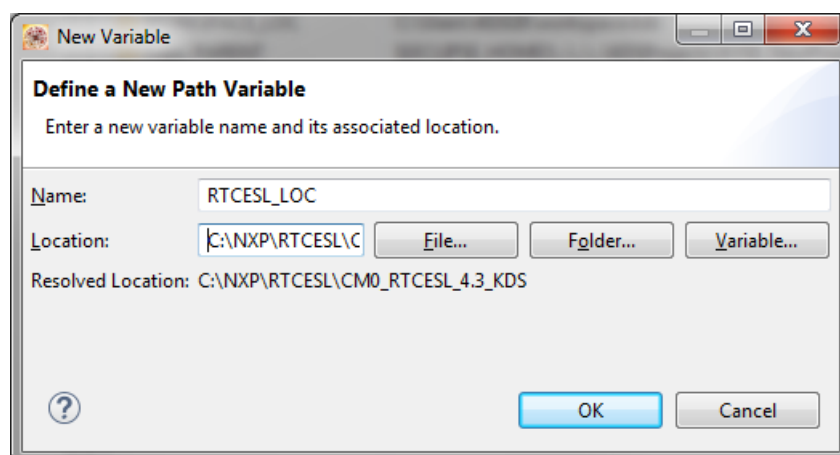

Figure 1-7. New variable
4. In the dialog that appears (see Figure 1-7), type this variable name into the Name box: RTCESL_LOC.